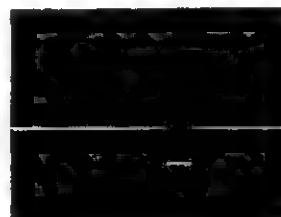

Fig. 4-4. — Servo Position Adjust Pulse
3. Adjust arm servo position control (R917 on pick-up arm assembly) until width of kick pulse is approximately the same in both Visual Search "FWD" and "REV" modes (approximately 450 to 750 uS width negative pulse). (See Fig. 4-4)